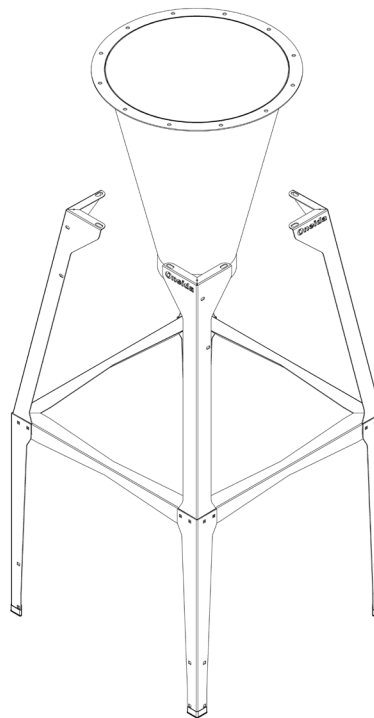

FIG. 4
Lift the Cone (D) onto the stand, making sure to align the Cone's flange holes with those on the stand [FIG 4].